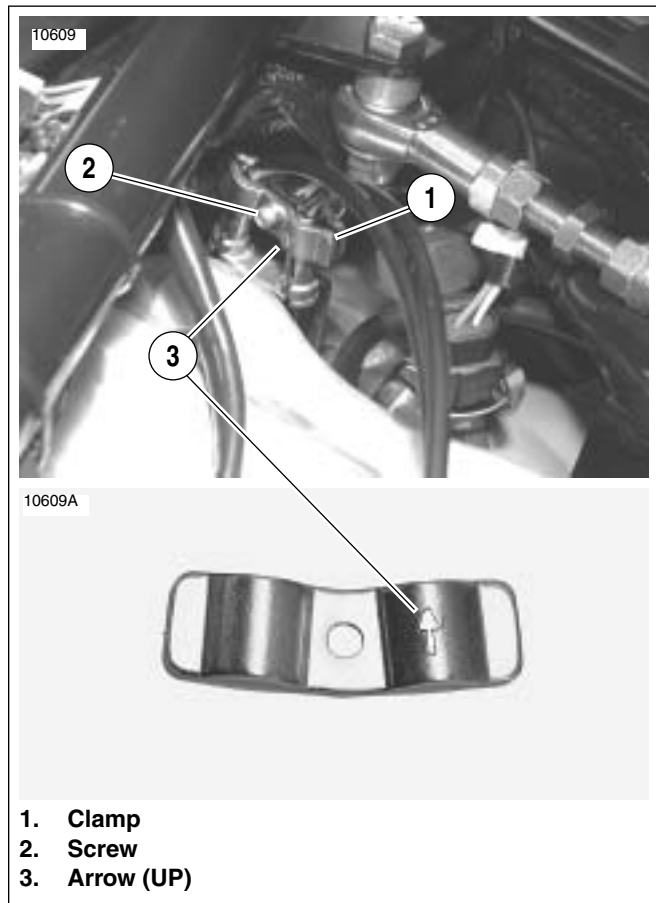

Figure 1. Throttle Cable Clamp Installed
6. See Figure 1. Apply Loctite 242 to fastener and loosely install cable clamp (1) over throttle cables and slide down to the cable ends.